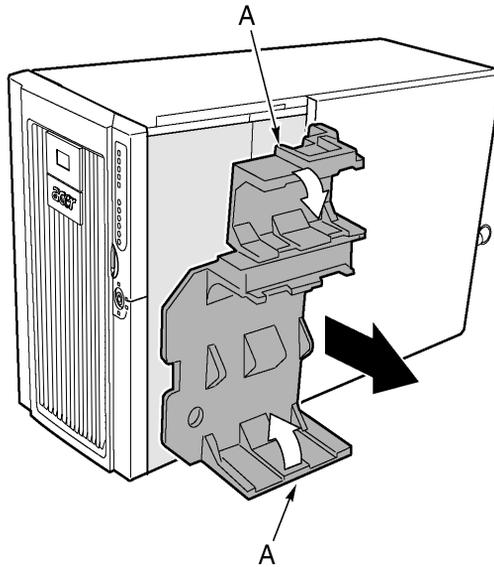

Figure 56 - Removing the fan baffle
- 4 Gently bend the ends of the foam baffle (Figure 56, A) toward each other to release the baffle notches from the tabs of the front subchassis.
- 2 Gently bend back the ends of the foam baffle (Figure 56, A), then push down and slide the baffle straight into the chassis until the tabs on the front subchassis mate with the corresponding notches in the baffle.